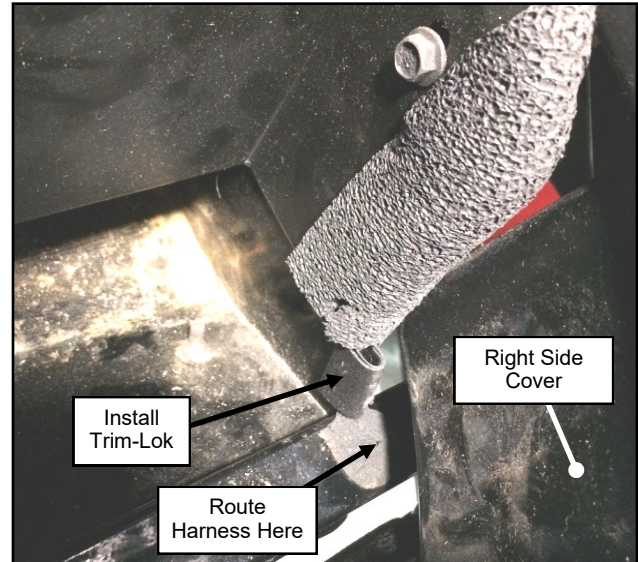

Fig. 18.6 Route Harness, Right Side
18.6 Pull right side cover out enough to replace the foam corner piece with a 1" piece of trim-lok as shown in figure 18.6. continue to route the harness back towards the battery compartment making sure to route the harness between the trim-lok and right side cover.